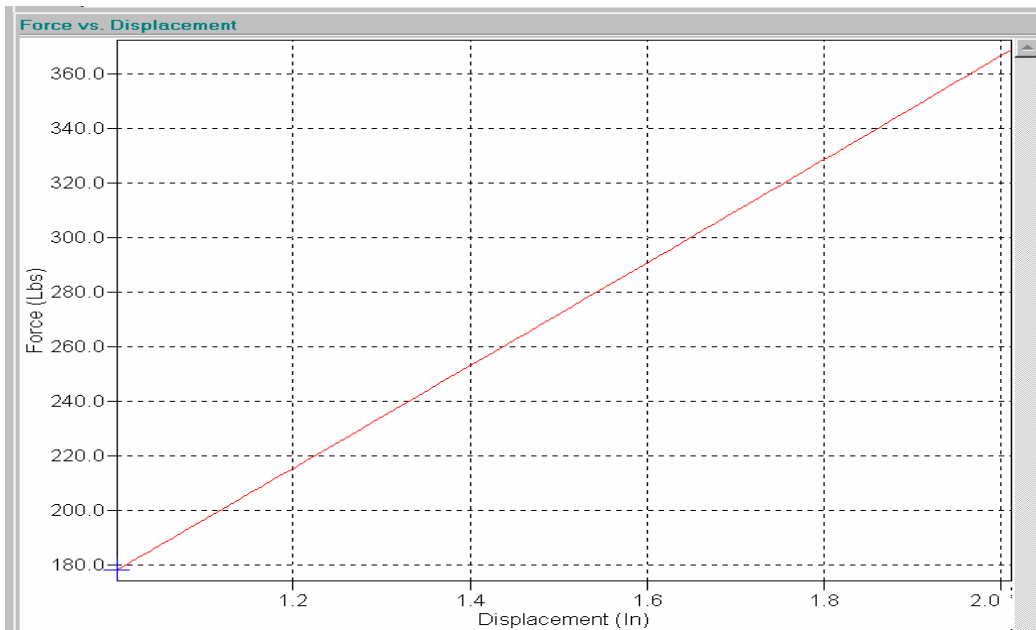

figure:11
**Force vs Displacement** (figure:11) Force is the y-axis and displacement the x-axis in this graph.